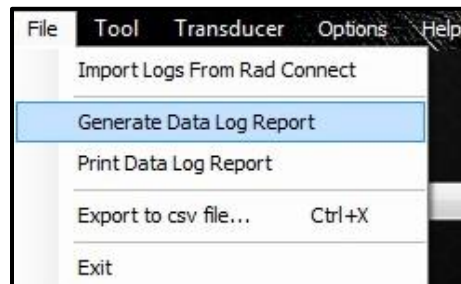

Figure 5.5-1: Generate Report Button
2. In the "File" drop down menu, press **"Generate Data Log Report"** (Figure 5.5-1).